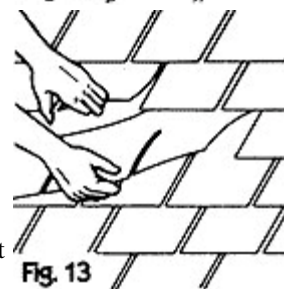

Fig. 13
5. Remove the damaged shingle. Slip the new shingle into place (Figure 13).